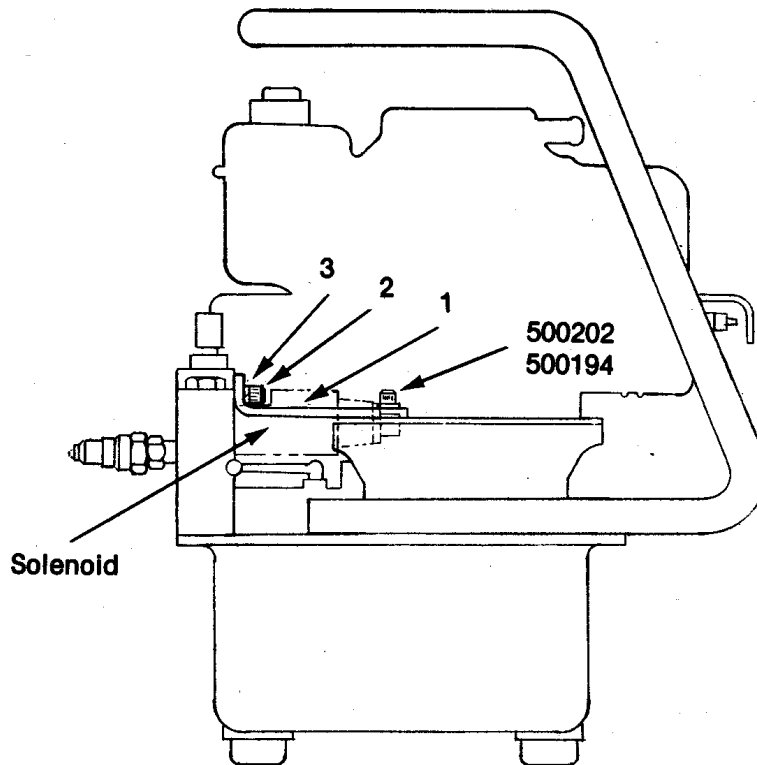

Figure 3
1. Remove engine mounting screw, P/N 500202, and washer, P/N 500194, closest to the solenoid—use 3/8 hex key. Loosely attach Strap (1) to engine mount with angle pointing up. See Figure 3. Push Screw (2) thru Lockwasher (3) and screw into tapped hole provided in directional valve. Tighten both screws.
sheet for Figure 3